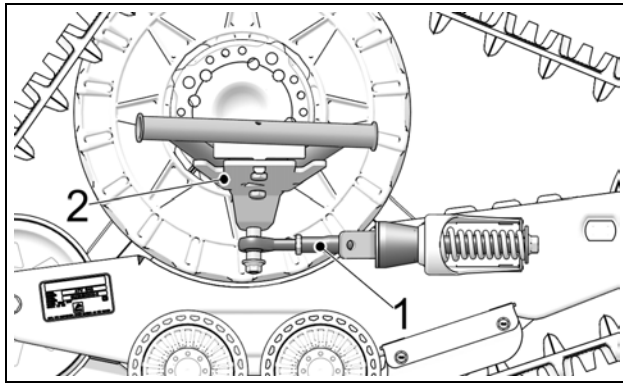

Figure 3
- Stabilizing arm (1) must be attached to front anchor bracket (2) mounted on vehicle. Figure 3.